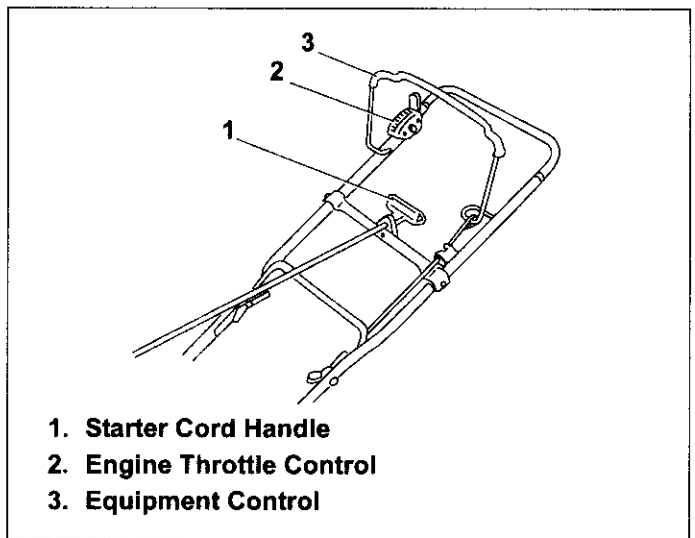

Figure 18. Typical Engine Control
4. Operate equipment control to release engine brake or clutch if present (see equipment manufacturer's instructions). See Figure 18.
5. Grasp starter cord handle. See Figure 18.
3. Operate equipment control to release engine brake or clutch, if present (see equipment manufacturer's instructions). See Figure 18.
4. Grasp starter cord handle. See Figure 18.
4. Operate equipment control to release engine brake or clutch, if present (see equipment manufacturer's instructions). See Figure 18.